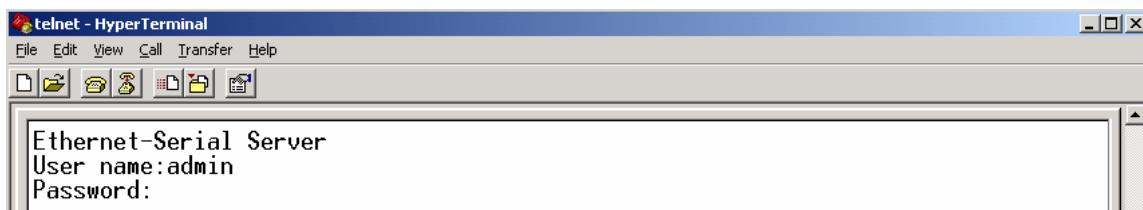

Figure 3.4 Login to the system
->Telnet to STE-501C using command "**Telnet IP_address**".(For example : Input **Telnet 10.0.50.100** in Ms-DOS command prompt window).After telnet to STE-501C, system prompts for a password, the default password is left it blank. (Figure 3.4)